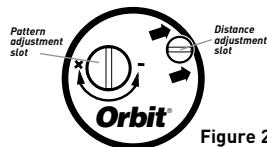

Figure 2
2. Insert a flat bladed screwdriver into the pattern adjustment screw (Figure 2).
1. Insert a small flat bladed screwdriver key into the distance adjustment slot (Figure 2).
2. Inserte un destornillador plano en el tornillo de ajuste del patrón (Fig. 2).